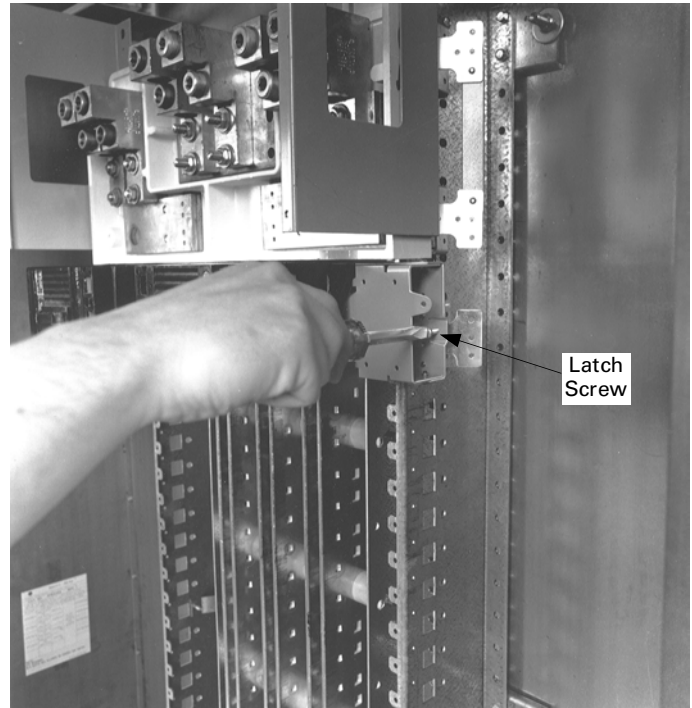

Figure 6. Installing the breaker module.
5. Install the module. Latch one side of the circuit breaker module. Release the rail latch. Pivot the module onto the bus bars and engage the second latch. Release the rail latch. Tighten the rail latch screws to 25 in-lb, as shown in Figure 6.